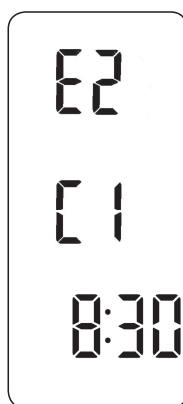

Fig. 18
- ii) Press the **NEXT** button to advance to the next event (**Fig. 18**).